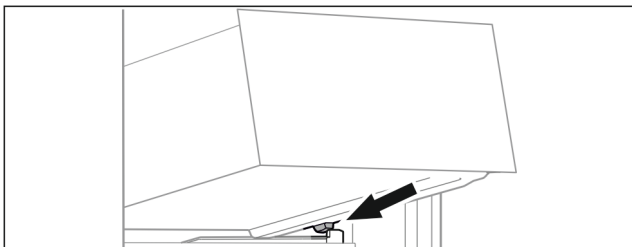

Fig. 119
- ▶ Place drawer at an angle behind the stoppers on the moulded rib. (see Fig. 119)